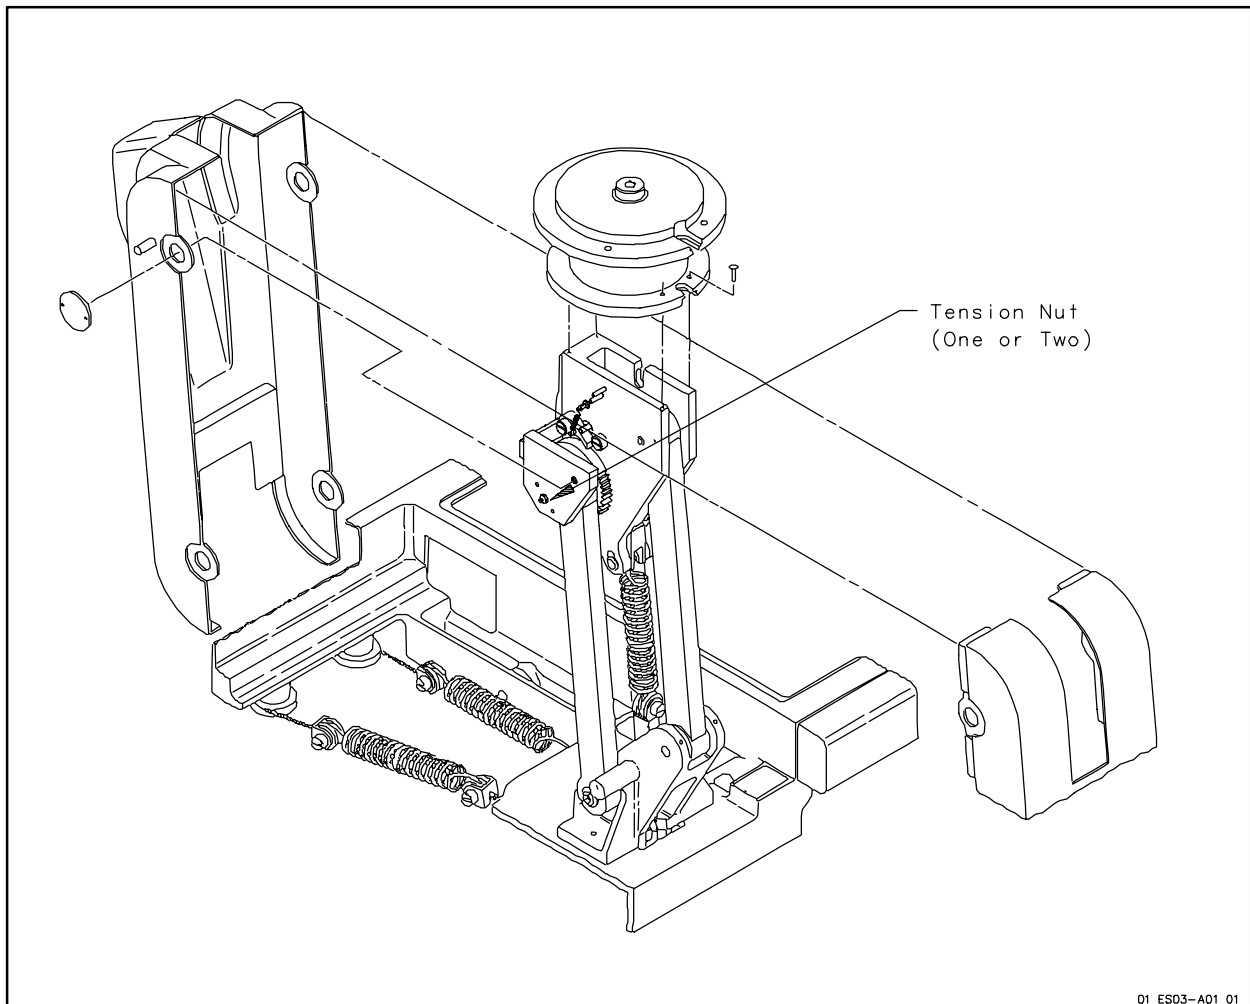

Figure 3-1. HFC Monitor Arm Tension Adjustment
3-2 HFC Monitor Arm Tension Adjustment (Figure 3-1)
2. Tighten tension nuts on arm to dampen movement (**Figure 3-1**).